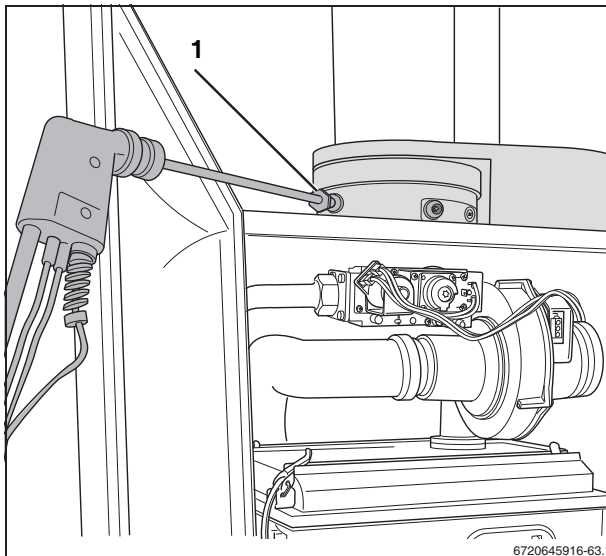

Fig. 63 Measuring the flue gases CO₂ emissions
- Remove the cover from the flue gas measuring point (fig. 63, [1]).
- Connect the flue gas analyzer to the left-hand measuring point, insert it roughly 2" (fig. 63).
- Remove the flue gas analyzer and fit the cover back onto the flue gas measuring point (fig. 63, [1]).